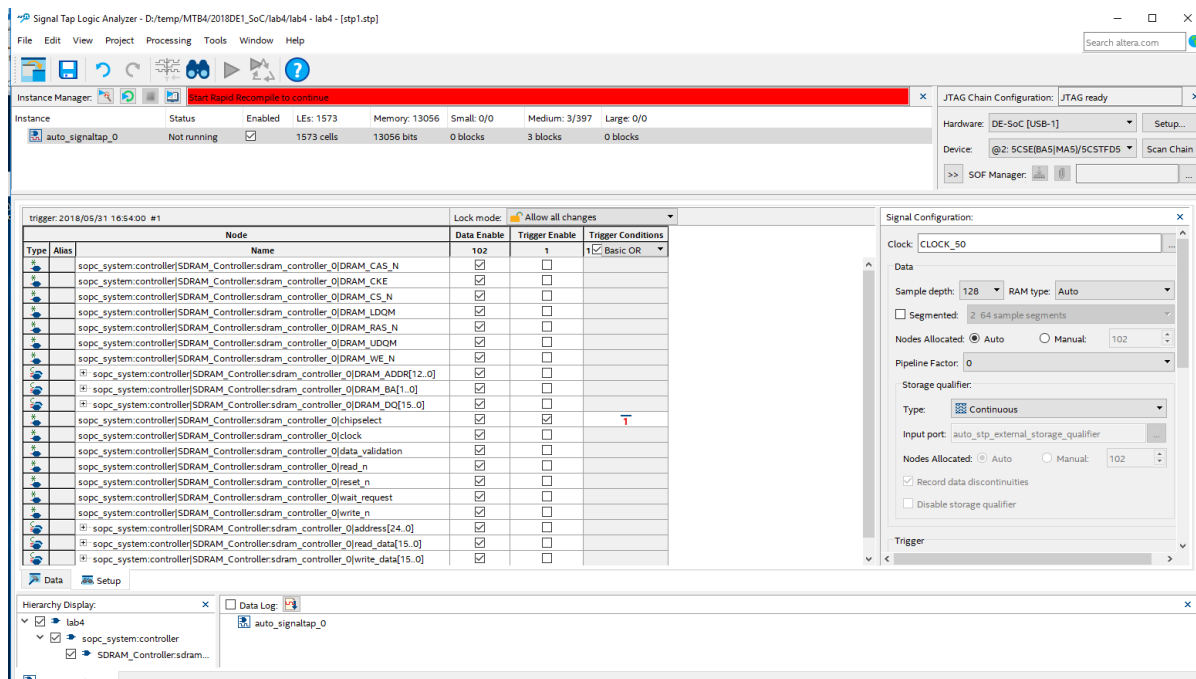

Figure 9: A possible setup for Signal Tap Logic Analyzer
3. Select `CLOCK_50` to be the clock for the system, as you learned in the tutorial. Set the analyzer to trigger only on a high value of the chipselct signal. (A possible setup is shown in Figure 9.)